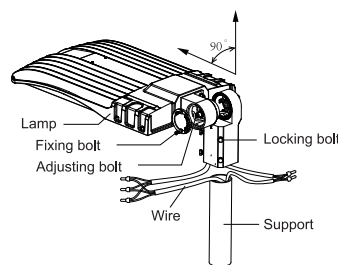

Figure 1
1. Loosen the 4 locking bolts on the slip fitter, connect the wire correctly and put the wire into the pole. Next, fasten the locking bolts between the slip fitter and the pole. (Figure 1)
2. Loosen the fixing bolts and the adjusting bolts and then align the fixture to the desired angle. After the light is in the correct position and adjusted to the correct angle, tighten the adjusting bolt and fixing bolts. (Figure 1)